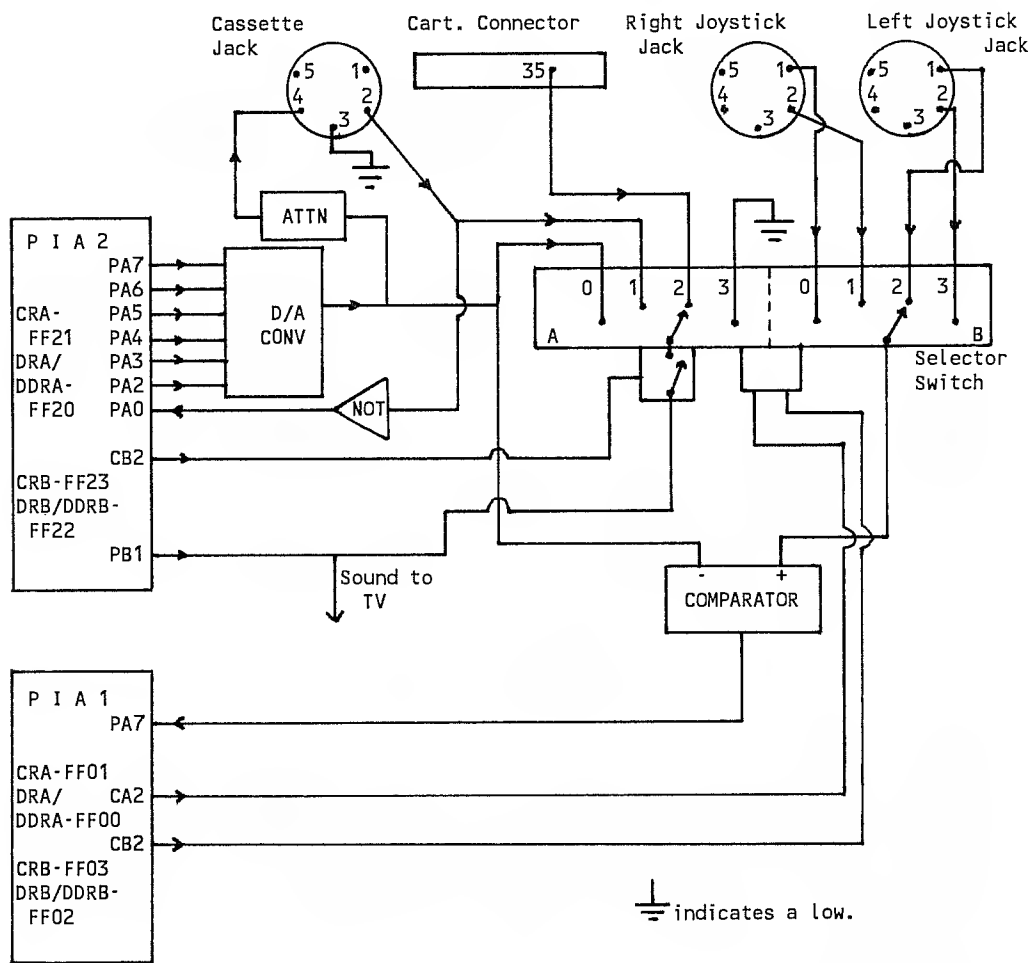

Figure 10-3
Fig. 10-3 shows the components and their interconnections used to input from the cassette and the joystick positions and to output to cassette and generate sound. Many of the components may not be familiar to you, so they are described here.
■ **Selector Switch** - The selector switch is a dual unit composed of two four-position switches, shown in Fig. 10-3. One half is designated the A switch, and the other the B switch. The position of both switches is controlled by the CA2 and CB2 signals from PIA 1. CA2 and CB2 must be configured for output so a control code can be sent to the selector switch. The four possible combinations of the states of CA2 and CB2 put both selector switches in one of their four possible positions. The corresponding codes and switch positions are shown in Table 10-2.
■ **Comparator** - The comparator compares the magnitude of two analog voltages and indicates which is greater. The comparator has two inputs labelled (+) and (-). If the voltage sent to the (+) input is higher (more positive) than the voltage at the (-) input, the comparator outputs a high. If the voltage sent to the (-) input is the higher of the two, the comparator outputs a low. As presented in Fig. 10-3, the (-) input is connected to the output of the D/A converter and the (+) input is connected to the B selector switch. The B selector switch is used to select different analog voltages to be compared with the output of the D/A converter. The comparator is used in conjunction with the D/A converter to form a successive approximation analog-to-digital converter. This is described in more detail in the joystick section later in this chapter.
■ **Attenuator** - An attenuator is connected between the output of the D/A converter and pin 4 of the cassette jack, shown in Fig. 10-3. This is the path an analog voltage takes on its way to the cassette to be recorded. The attenuator reduces the magnitude of the range of the analog voltage going to the cassette to approximately a range of zero to plus one volt; most cassettes are designed to accept this voltage range. One could also
Each joystick sends two analog voltages that vary according to its position to the computer. One voltage from a joystick varies in proportion to its forward and backward position and the other to its left and right position. The forward/backward voltage comes in pin 2 and the right/left voltage comes in pin 1 of the joystick jack, shown in Fig. 10-3. The voltage ranges from zero, joystick full forward or leftward, to 4.5 volts, full backward or rightward. The position of a joystick is determined by selecting each output with the selector switch, and measuring the voltage. The voltage is measured by converting it to a digital value with the successive approximation analog-to-digital, or A/D, converter.
Sound through the TV can come from four sources: the D/A converter, the cassette, a cartridge, and PB1 of PIA 2. Selector switch A selects one of the first three sources. Position 3 of selector switch A is connected to a low and is used when no sound is desired. This can be seen in Fig. 10-3.